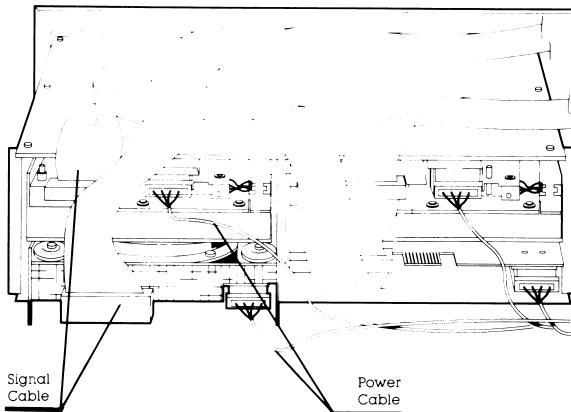

Figure 7-45. Disconnecting Cables from Mass Storage Device B or C.
3. Disconnect the signal cable and the power cable from the back of mass storage device B or C (Figure 7-45).